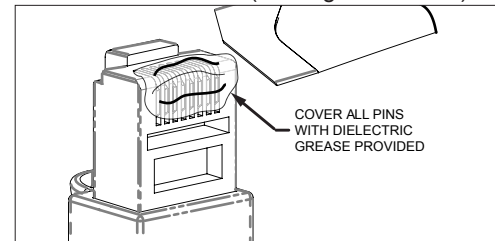

Figure 8 - Grease application
2. Ensure coverage across all pin contact areas on both RJ45 plugs prior to inserting for final installation (see Figure 8 below).